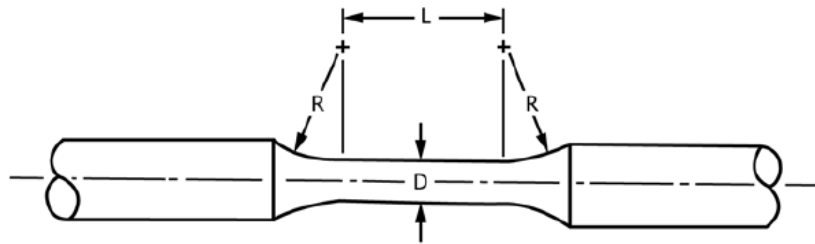

Figure 1
- The 10 specimens shall be machined according to figure 1 and table 1.